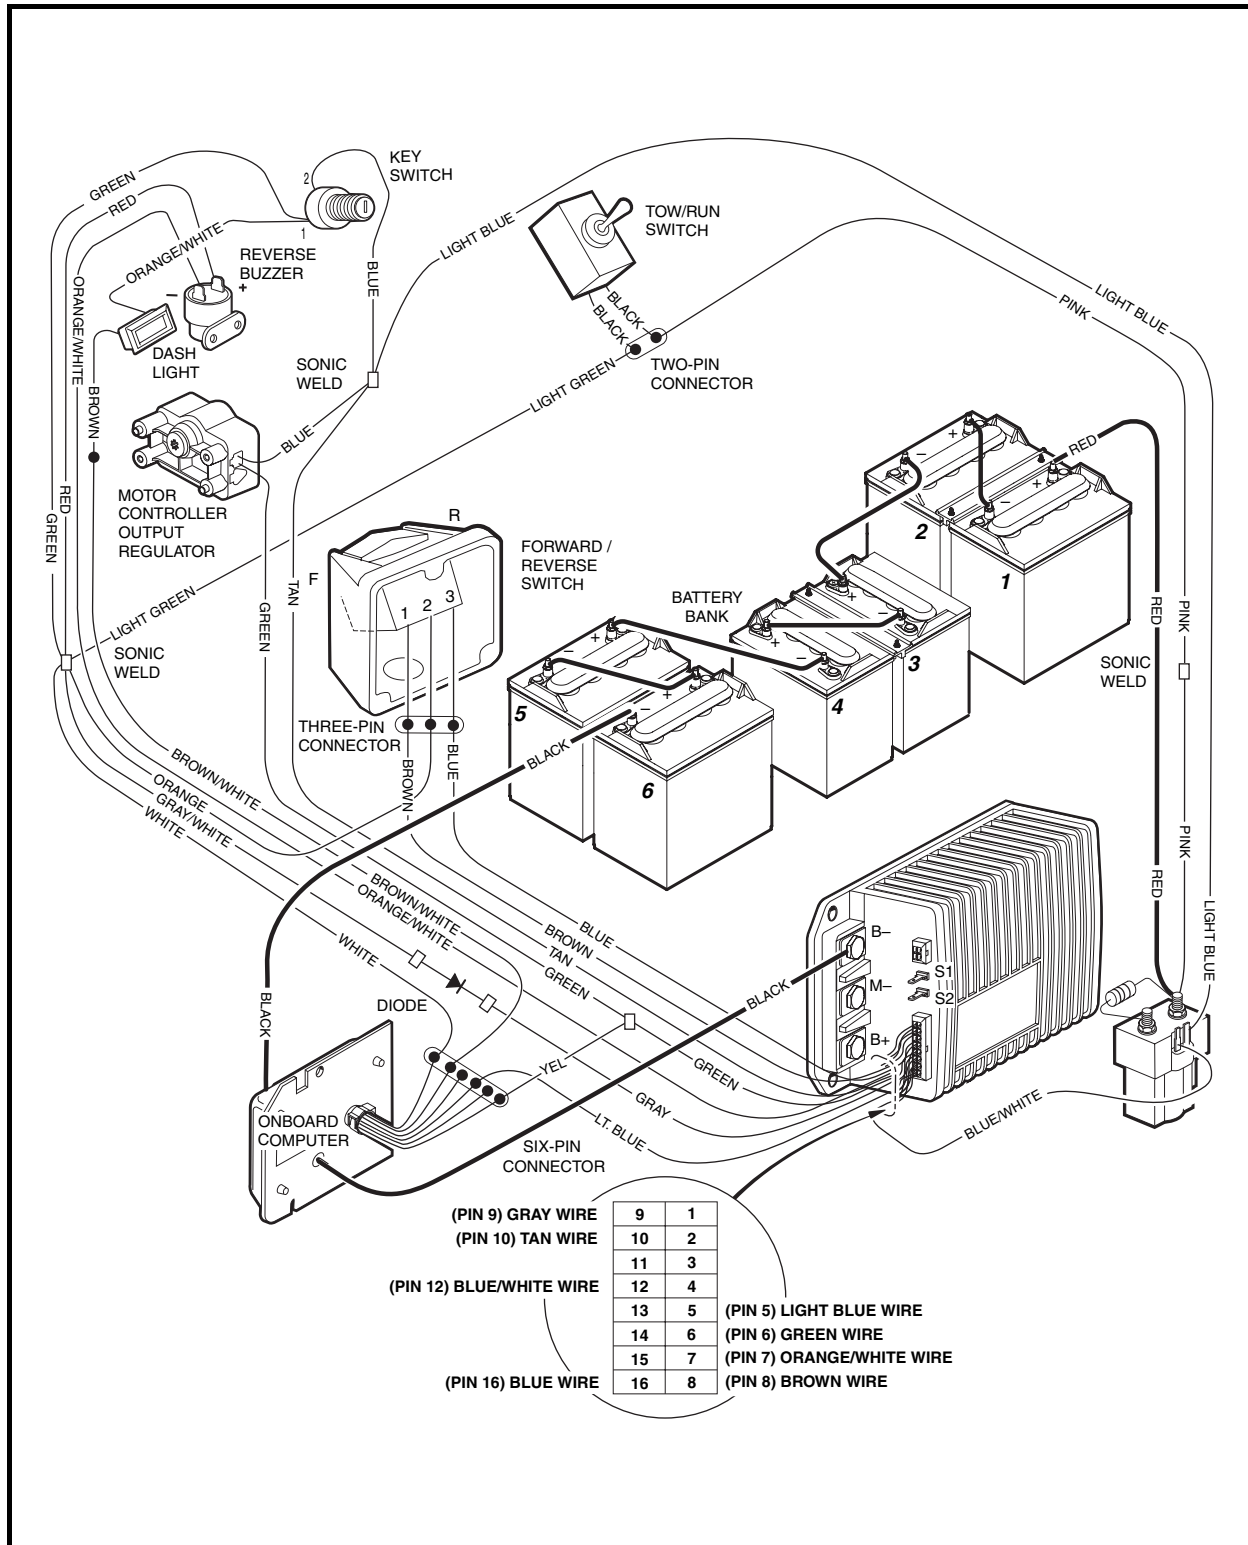

Figure 11-3 Tow/Run Switch Circuit
- Tow/Run switch circuit (**Figure 11-3, Page 11-8**).